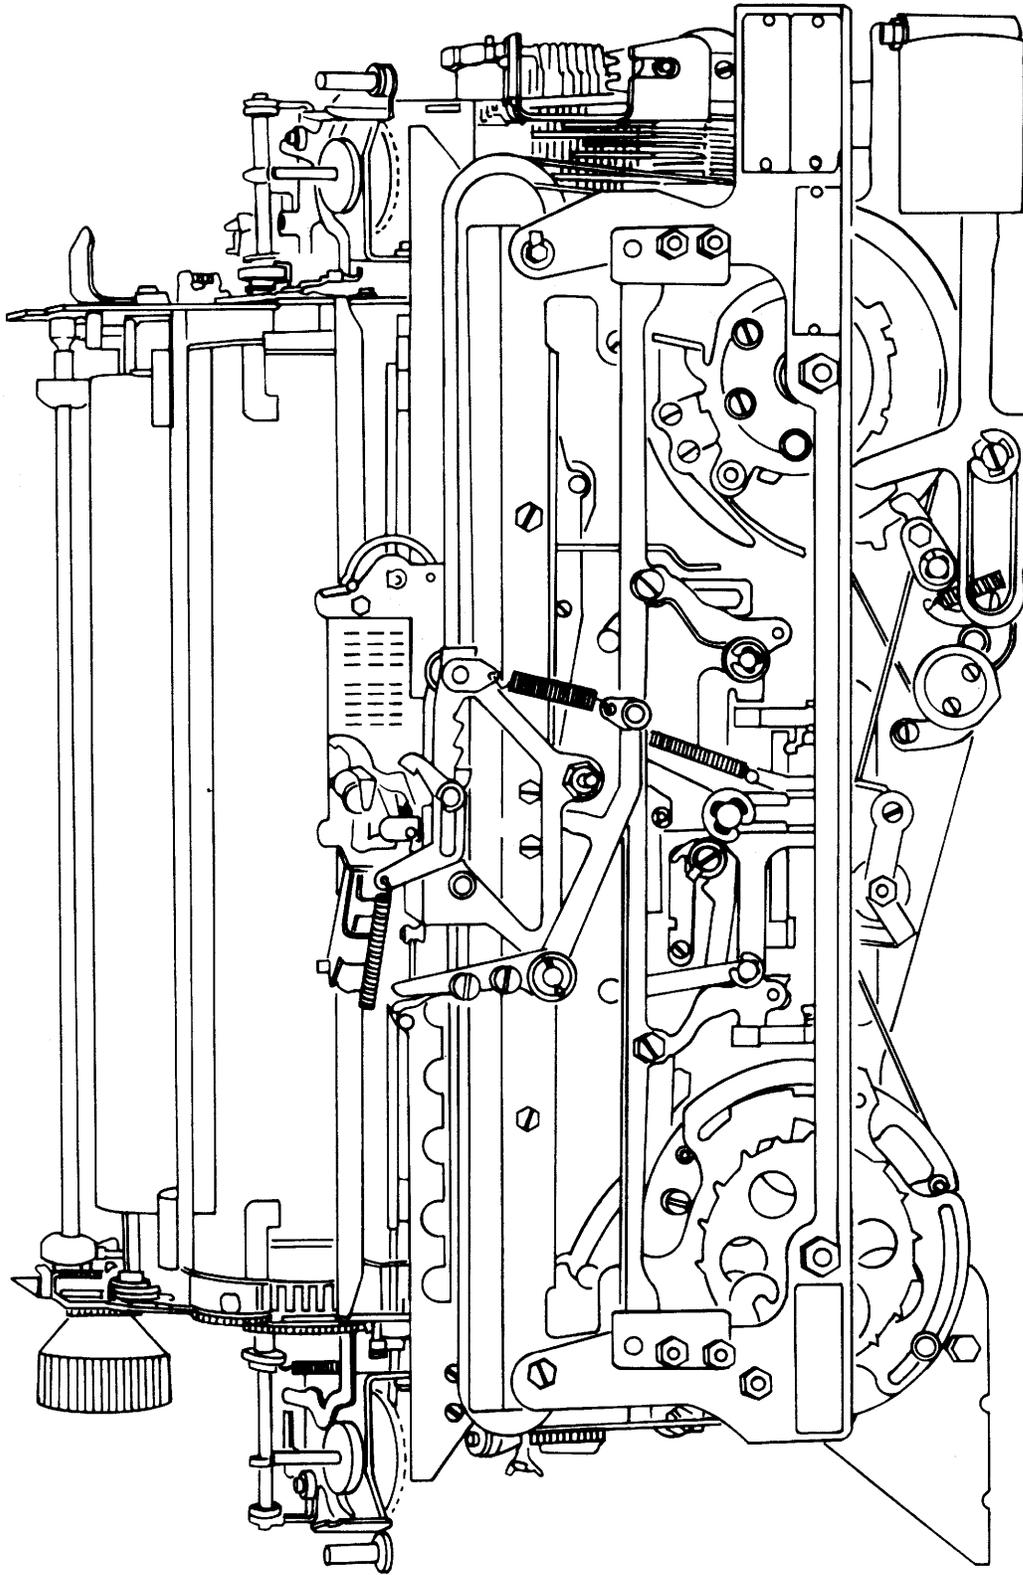

Figure 6-48. Keyboard Print Box.
6-49. Keyboard Print Box Removal and Replacement. To replace the keyboard print box, see figure 6-48, and proceed as follows:
a. Push trip lever to right and pivot print box latch clockwise to release print box (see figure 6-48).